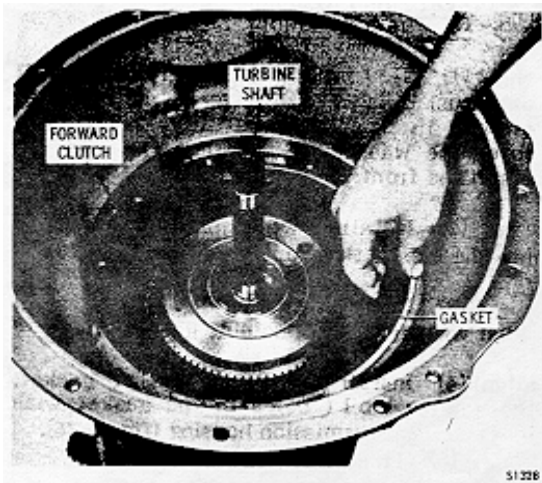

Fig. 7-26. Installing front support gasket
(3) Lubricate the sealrings and thrust washer with oil-soluble grease.
(4) Install the front support gasket, aligning the bolt holes in the gasket with those in the transmission housing (Fig. 7-26).